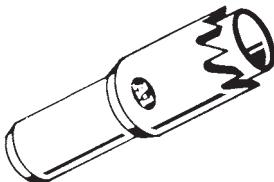

Figure 2.28 A tubular key lock saw is used to drill through the tumblers of tubular key locks.
- Tubular-key lock saw (Fig. 2.28)